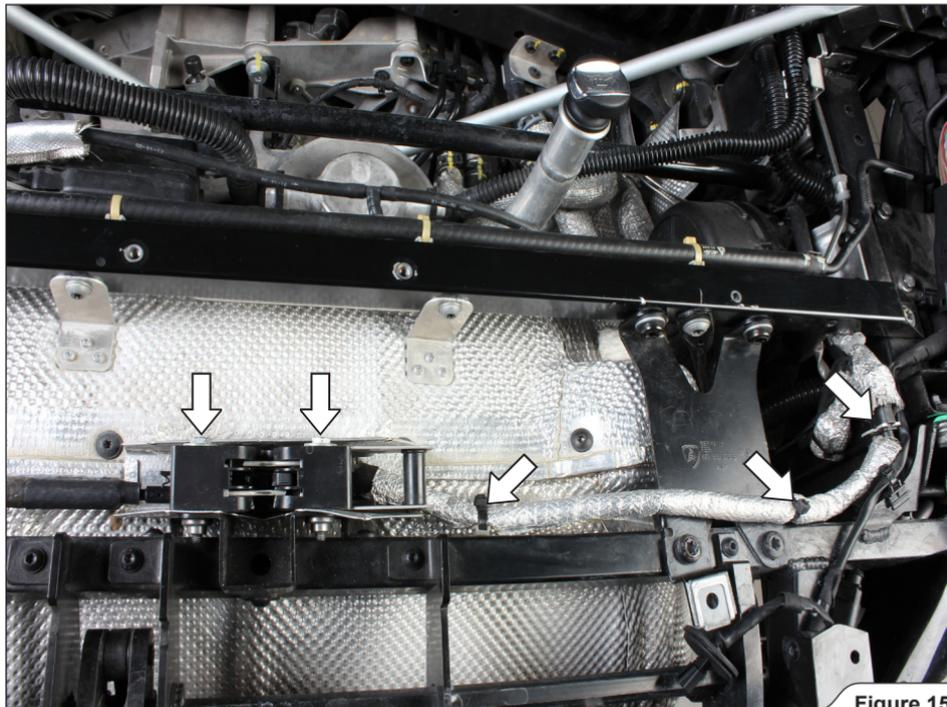

Figure 15
8. Unscrew the engine hood lock, cut the marked zip ties, disconnect the marked connector and move the lock out of the way (**Figure 15**).